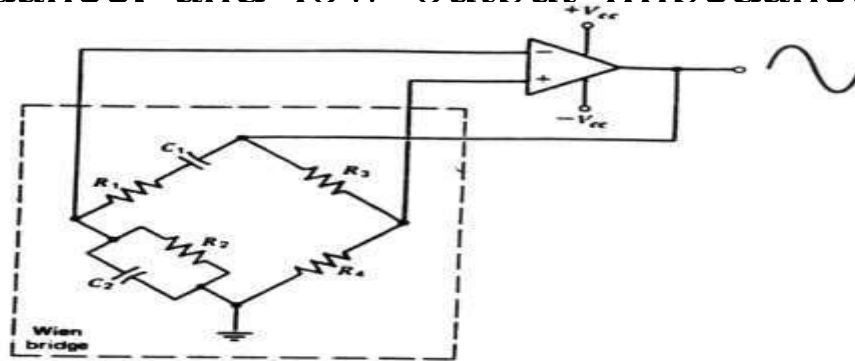

Fig. 1-2 Wien bridge oscillator.
- The basic Wien bridge oscillator is shown in Fig. 1-2. as can be seen. the Wien bridge oscillator consists of a Wien bridge and an operational amplifier represented by the triangular symbol. Operational amplifiers are integrated circuit amplifiers and have high-voltage gain, high input impedance. and low output impedance. The condition for bal: